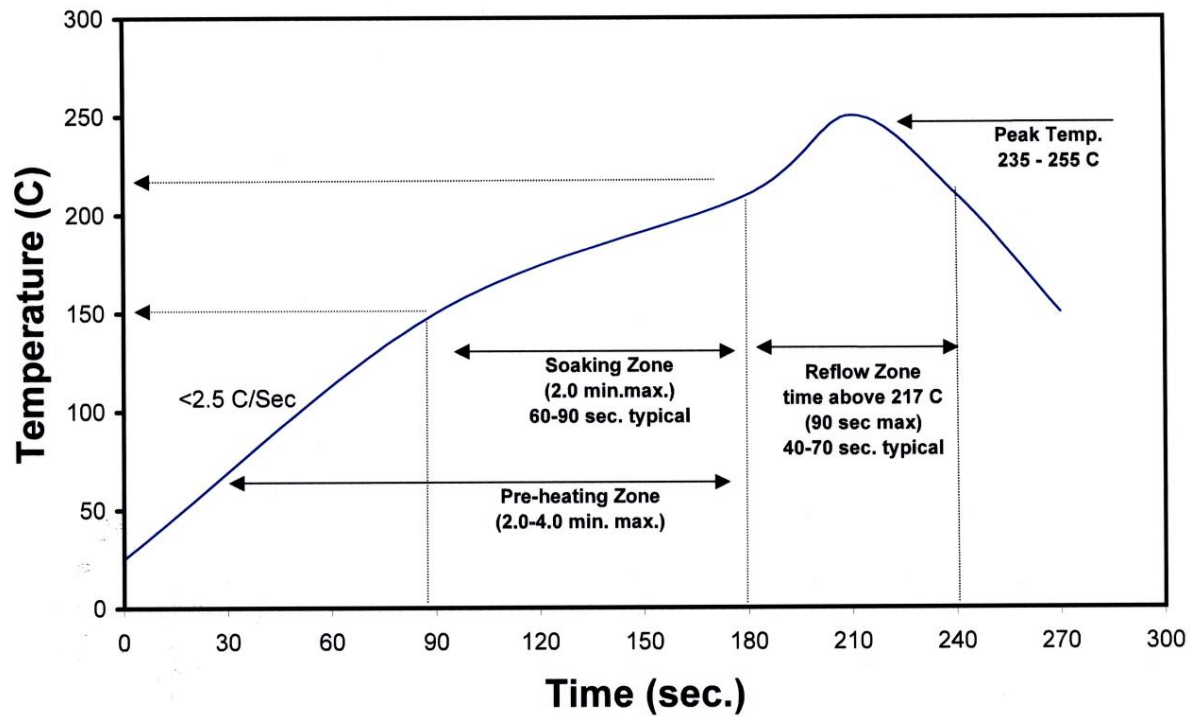

Figure 3: Reflow soldering profile for lead free soldering.
- Solder conditions per JEDEC J-STD-020. See Reflow Soldering Profile Figure 3.